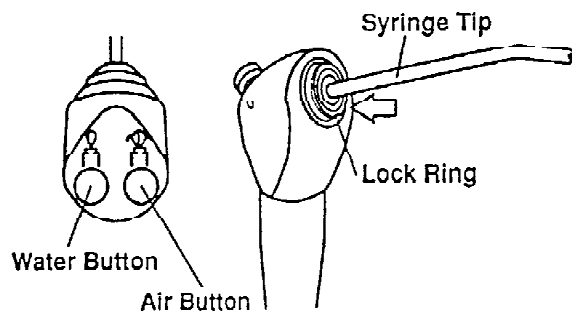

Fig. 3-3 3-Way Syringe
(2) 3-Way Syringe
A. 3-Way Syringe Operation (Fig.3-3)
Note : Refer to Fig 3-3 to remove and to set syringe tip.